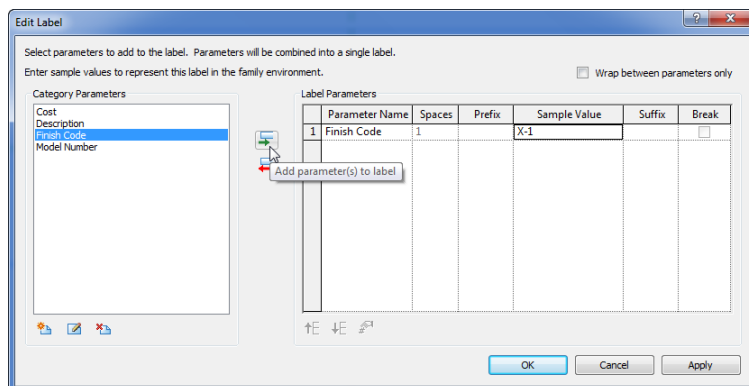

Figure 15 – Create Parameters and add the Code to the Label
- ✓ Select Finish Code and then click the Add Parameter to Label icon in the middle. Change the Sample Value to something like X-1 and then click OK (see Figure 15).